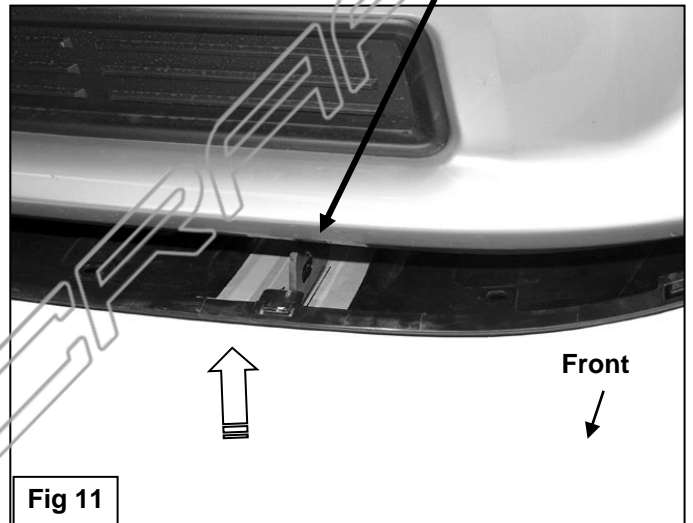

Fig 11
6. Stand back from the vehicle and check to see that the Bull Bar is centered and level on the vehicle and adjust as necessary. Tighten only the hardware securing the Mounting Brackets to the vehicle first. Next tighten only the (4) 8mm Hex Bolts securing the Tube Brackets to the Bull Bar as described in **Step 4**. Do not tighten the 12mm hardware attaching the Tube Brackets to the Mounting Brackets. Remove the Bull Bar with Tube Brackets attached.
7. Hold the splash guard up to the bumper cover and align it with the mounting points, **(Figure 11)**. Mark the location of the Mounting Brackets onto the back of the splash guard, **(Figures 11—13)**. Cut an approximately 1" wide by 4" long slot in the splash guard, **(Figure 13)**. **NOTE:** The size of the slot is an estimate only and may vary due to different factory designs for the splash guards and front bumper covers. Also, additional cutting may be required to clear the Support Bracket on vehicles equipped with tow hooks. **IMPORTANT:** To avoid weakening the splash guard, do not cut the slot any larger than necessary. Do not cut through the front or back edges of the cover, **(Figure 13)**. Make several small cuts first and check the fit often for a clean installation.